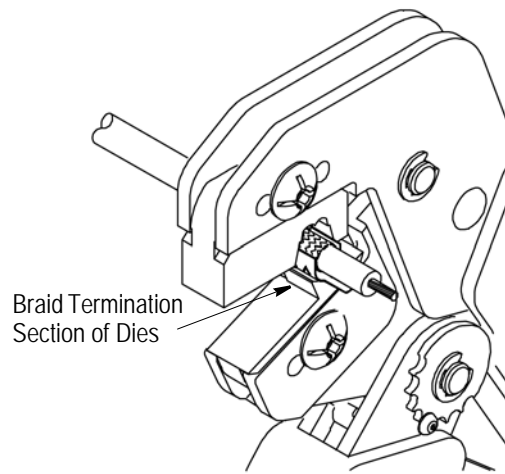

Figure 5
4. Place the terminal-cable assembly between the dies with the cable extending away from you, as shown in Figure 5.